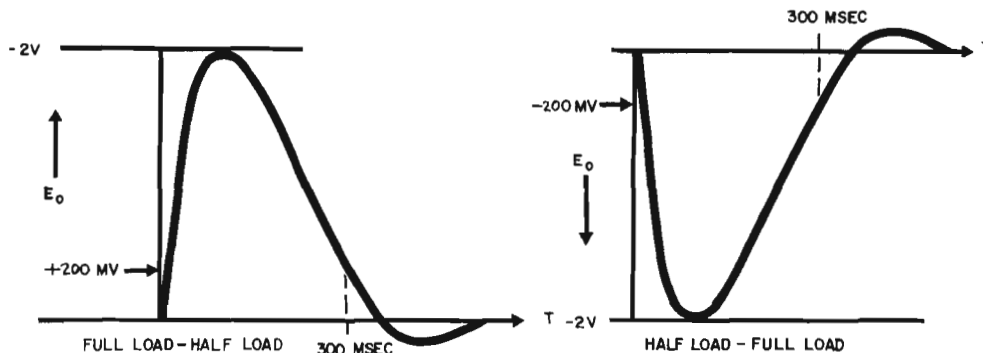

FIGURE 5-5. TRANSIENT RECOVERY TIME, WAVEFORM
- e. Oscilloscope display should be as shown in figure 5-5.